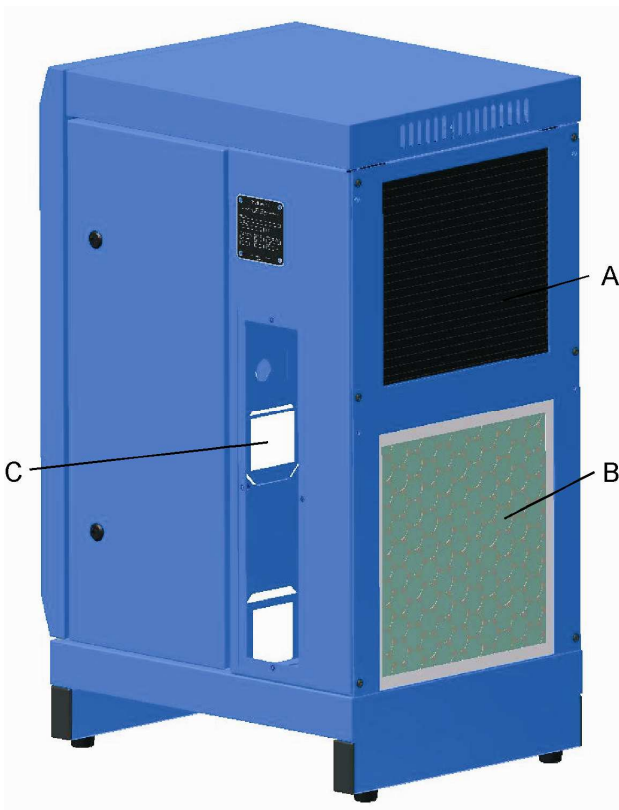

Fig 7.3 Intake and Cooler Matrix
7.9 Oil Cooler/Aftercooler (Fig.7.3)
7.10 Cabinet Air Filter (Fig 7.3)